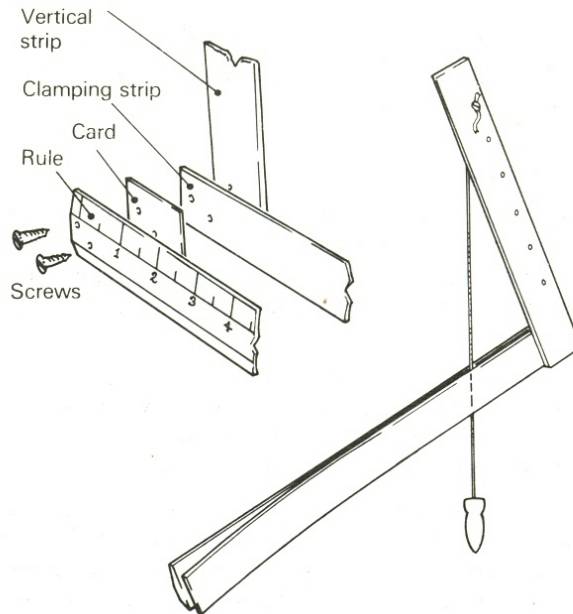

Figure 1: Parts of the measuring instrument.
3. Clamp these three parts to the ruler in the following order. First the card which should fit flush at the zero end of the ruler. Next, the flexible strip which must lie along the back of the ruler. Lastly, the 8" x 1/8" strip set at an angle of 90° to the top of the rule and attached at the zero end. This is all illustrated in Fig. 1.